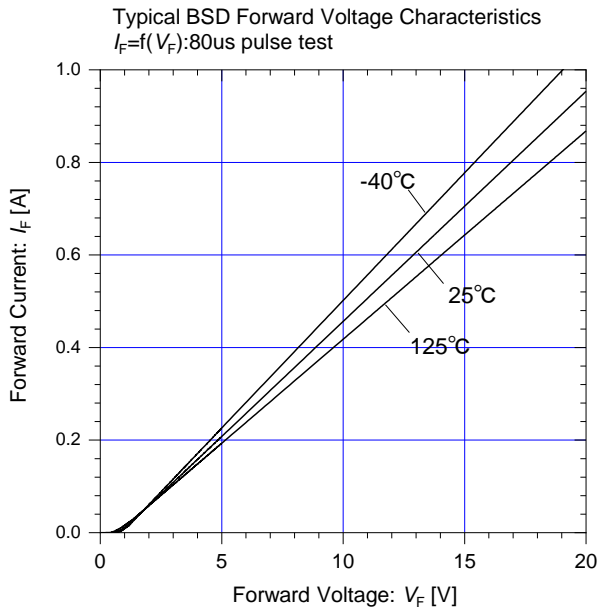
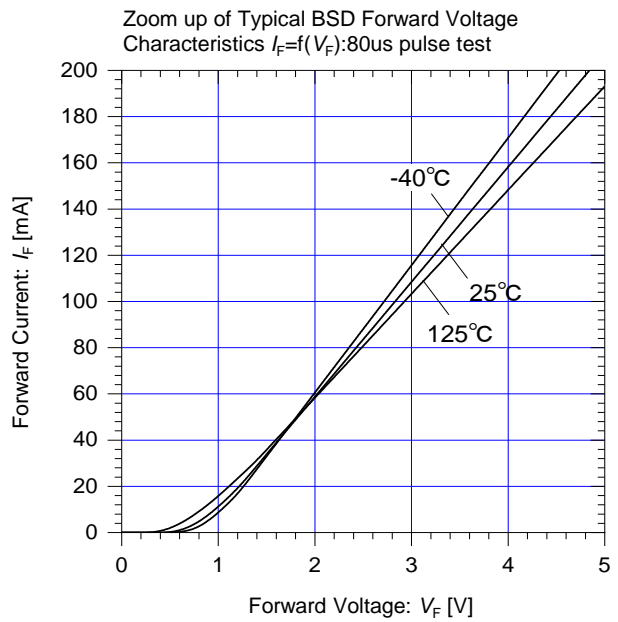

Fig. 3-11  $V_F$ - $I_F$  characteristic of BSD
Fig. 3-12  $V_F$ - $I_F$  characteristic of BSD
- \*  $R$  : Bootstrap circuit resistance  $R_{(BSD)}$  (refer to Fig. 3-11, Fig. 3-12)
The bootstrap diode has built-in current limiting resistor of 20Ω (typ.). Fig. 3-11 and Fig. 3-12 show the  $V_F$ - $I_F$  characteristics of the bootstrap diode.